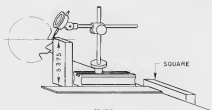

Figure 56A
10. After grinding, test the hob teeth with an indicator to see that they have been ground radially (Figure 56A).
Important: The teeth must be ground radially in cutters of this type, or the tooth form will be changed. A simple and effective means of testing is shown in Figure 56A. The block is exactly $5\frac{3}{8}$ " high, the same height as the tailstock centers. Set the indicator dial to zero when indicating